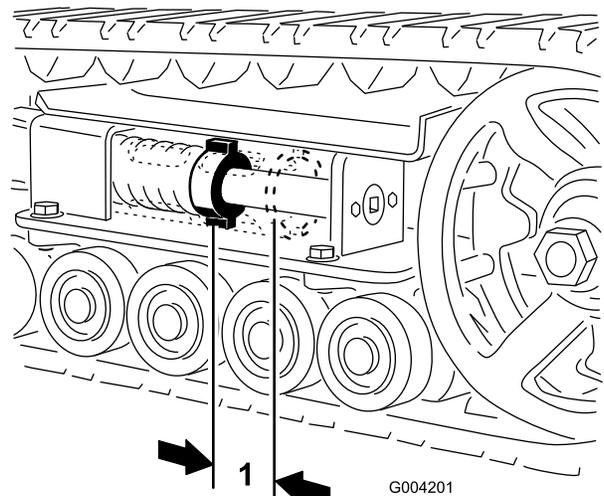

Figure 47
There should be 7 cm (2-3/4 inches) between the tension nut and the back of the tension tube (Figure 47). If not, adjust the track tension using the following procedure:
4. Using a 1/2 inch drive socket (Figure 49), turn the tensioning screw counter-clockwise until the distance between the tension nut and the back of the tension tube (Figure 47) is 7 cm (2-3/4 inches).
11. Turn the tensioning screw counter-clockwise until the distance between the tension nut and the back of the fork tube (Figure 47) is 7 cm (2-3/4 inches).
17. Turn the tensioning screw counter-clockwise until the distance between the tension nut and the back of the tension tube (Figure 47) is 7 cm (2-3/4 inches).